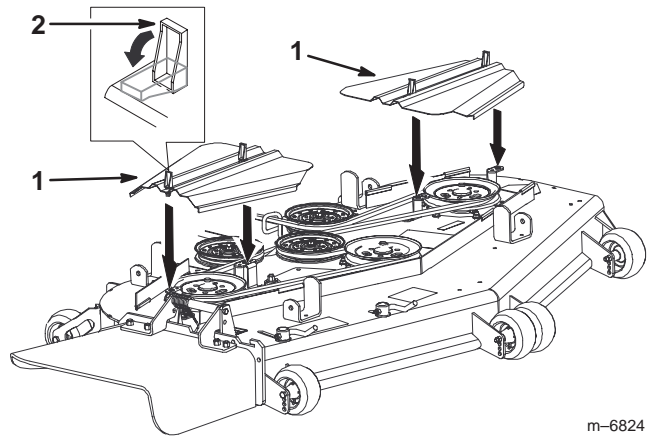

Figure 71
3. Remove the belt covers (Fig. 71).
7. Install the belt covers and close the latches (Fig. 71).